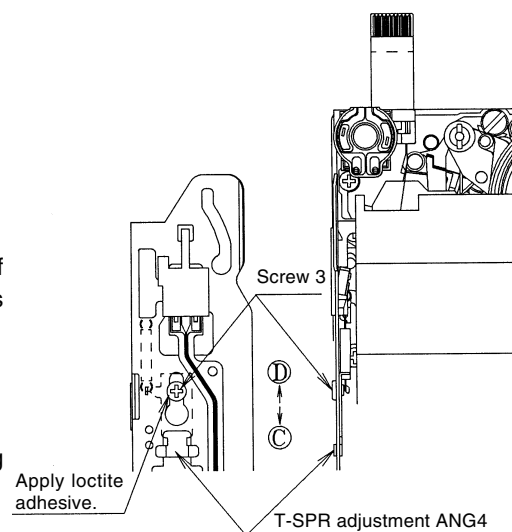

Fig.5 Checking (tape exists)
### (2) Adjusting (See Fig.5.)